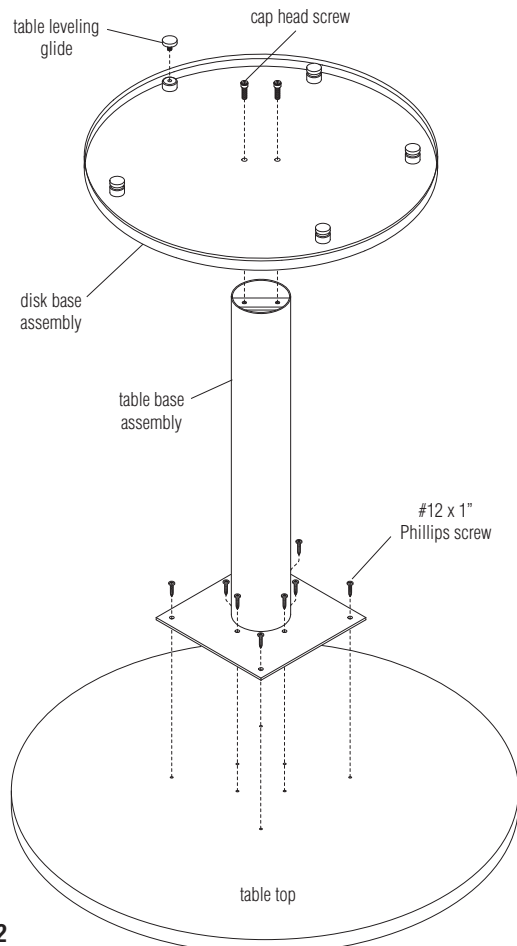

Figure 2
3. Carefully flip the table column assembly over so the table support plate is down. Position the disk base assembly over the table column as illustrated, aligning the mounting holes in the disk with the threaded strap in the column. Insert two cap screws through the disk and into the column, then thread in to secure. Tighten cap screws to between 20 and 25 foot pounds of force (Figure 2).
4. If not pre-installed, thread in five table leveling glides. Adjustment of glides may be necessary after table assembly is complete and table is set upright in its desired location (Figure 2).
5. Carefully set table top upside down onto a soft, protective surface. Position the table support plate of the table base assembly over the appropriate pre-drilled hole pattern in the underside of the worksurface. Secure using eight #12 x 1" Phillips pan head screws. Do not over-tighten (Figure 2).